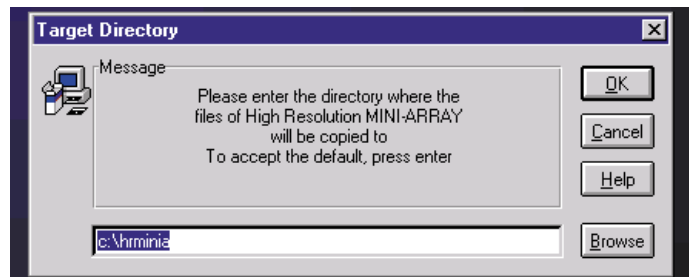

Figure 4-3. MINI-ARRAY software installation: Target Directory screen
4. A Target Directory dialog box will appear (Figure 4-3); the default directory is **c:\HRMINIA**. Select **OK** to enter the default directory, or enter an alternate directory and then select **OK**.